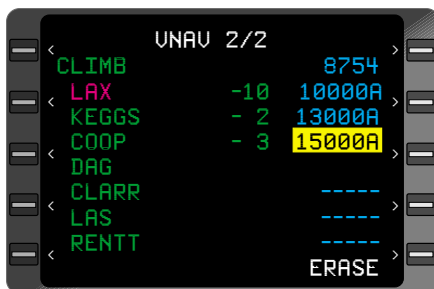

Figure 3-130
2. Line Select Key - DEPRESS to position the cursor over the desired waypoint altitude. (Figure 3-130)
*NOTE: If the waypoint is part of a SID, STAR or Approach procedure, the altitude constraint prefills from database. "Cross-Between two Altitudes" type constraints, as shown in Figure 3-130, cannot be programmed manually.*